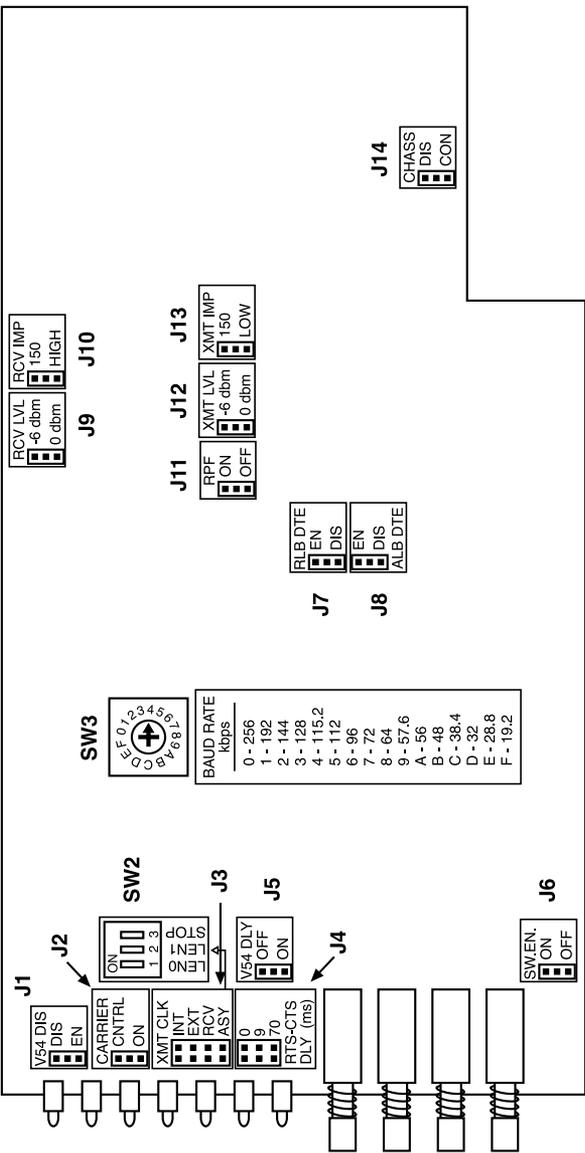

Figure 3-1. Layout of the 256-kbps Line Driver circuit board.
V.54 loops are activated manually with the front-panel buttons, or through the DTE interface. The buttons and the DTE interface can be enabled or disabled separately by jumpers J7 and J8 (shown in Figure 3-1 and described in Table 3-1).
Before attaching anything to the 256-kbps Line Driver standalone or rackmount card version, determine which data rate you’re going to use, what the system’s clock source should be, and how you want to set all of the other user-configurable options on the line driver. (Refer to Table 3-1 on the next two pages for a list of all of these options; the *SW_n* and *J_n* numbers in the table’s “Element” column correspond to the locations with the same numbers in Figure 3-1.)
3. Identify the control(s) (refer to Figure 3-1).